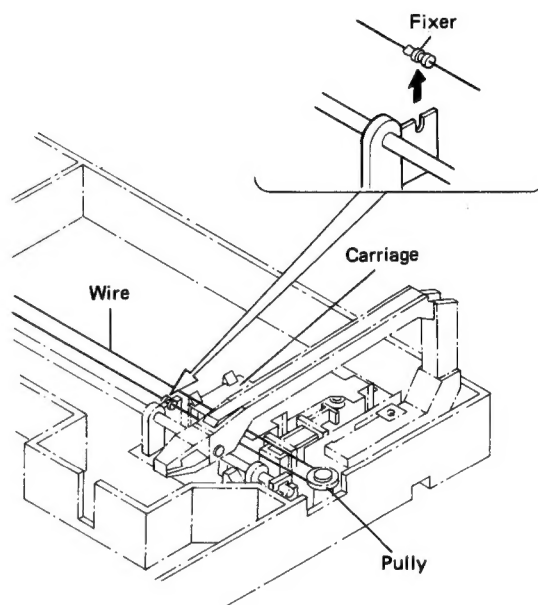

Fig.3-2 Removing Carriage Wire
1. Remove the fixer from the carriage and the wire from the pulley. (See Figure 3-2)
2. Remove the screw ❸ and pull the guide bar away from the carriage in the direction indicated by the arrow. The carriage and tonearm assembly can now be removed.
3. Removing the spring will release the carriage board assembly, and removing two screws ❹ will release the mechanism base board assembly.